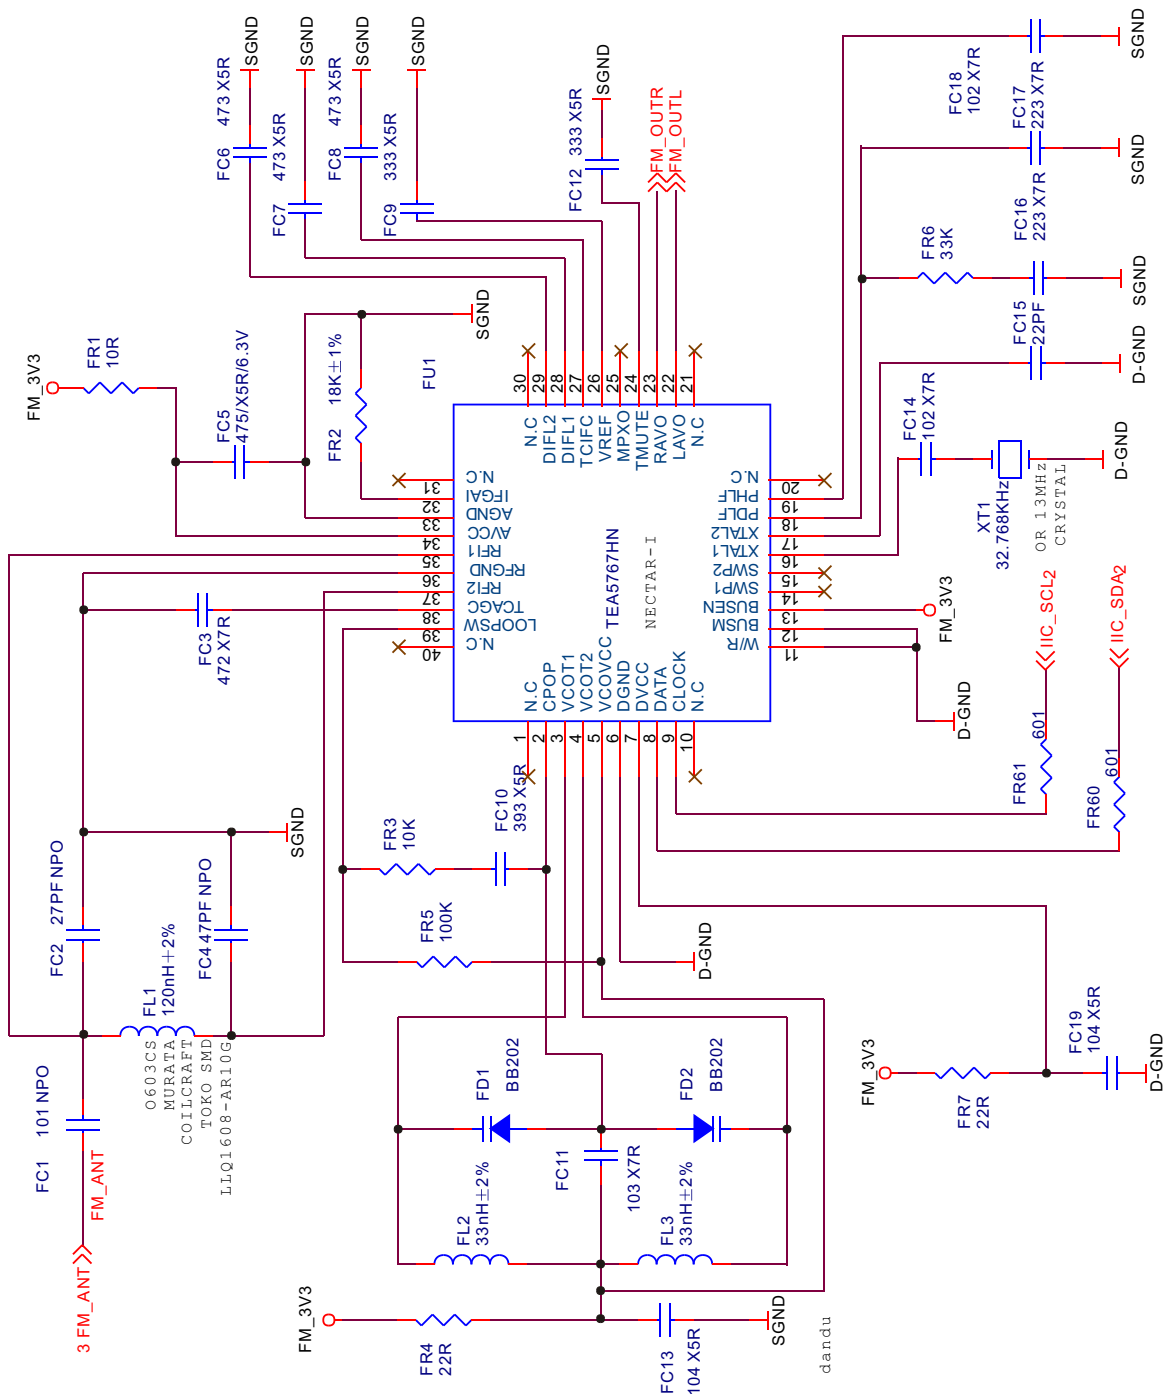

Figure 3.2.2.1 FM tuning circuit diagram
1. FM tuning circuit diagram is shown in the figure 3.2.2.1;